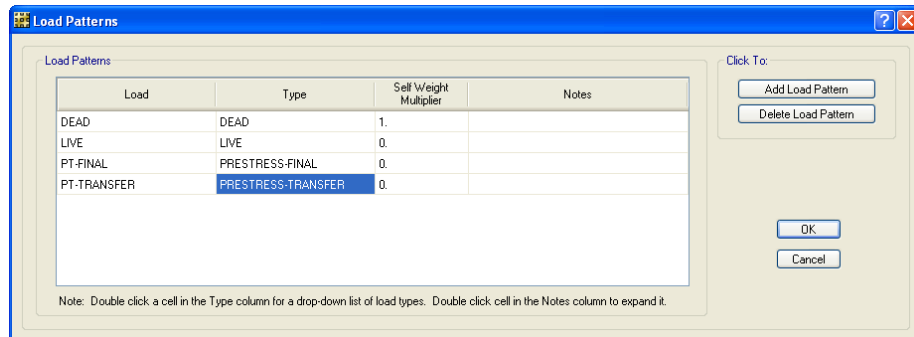

Figure 67 Load Patterns form after all load patterns are entered
- I. Select *PRESTRESS-TRANSFER* from the drop-down list under Type for the PT-TRANSFER load pattern. The Load Patterns form should appear as shown in Figure 67.